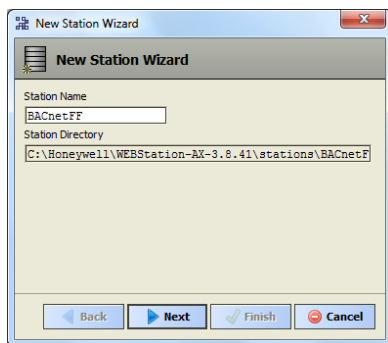

Fig. 10. New Station Wizard Window
- After clicking 'New Station', it opens 'New Station Wizard' window. (Refer to Figure 10)